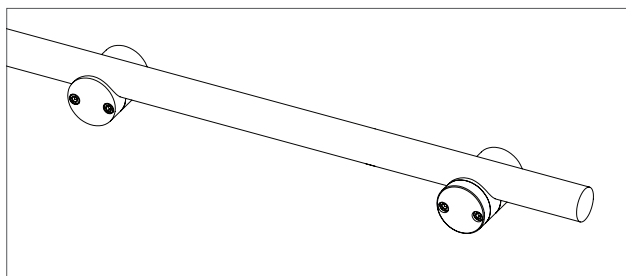

Figure 4
7. Lay tube track in groove of spacers and adjust side to side for final placement (Figure 4).